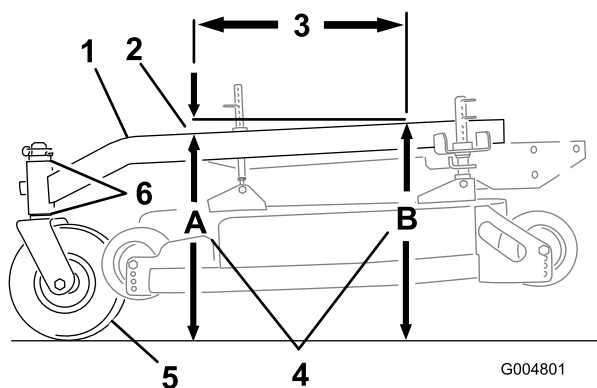

Figure 54
The carrier frame must have a pitch between 3 mm (1/8 inch) to 9 mm (3/8 inch) over the length of 61 cm (24 inches) on the carrier frame (Figure 54).
1. Measure out 61 cm (24 inches) on the carrier frame (Figure 54).
2. Measure the carrier-frame height at location **A** (Figure 54).
3. Measure the carrier-frame height at location **B** (Figure 54).
4. The height at location **A** must be a 6-10 mm (1/4-3/8 inch) lower than location **B** (Figure 54).
5. If the carrier frame is not correct, move caster spacers to make it a 6-10 mm (1/4-3/8 inch) pitch (Figure 54).